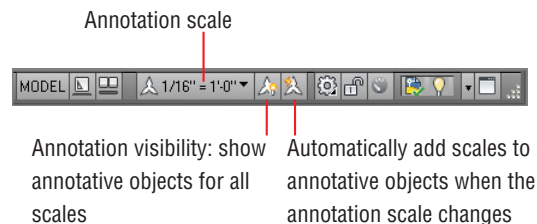

FIGURE 13.4 Annotative controls on the status bar
8. Select the two toggles adjacent to Annotation Scale on the status bar so that both have yellow icons indicating that they are turned on (see Figure 13.4).